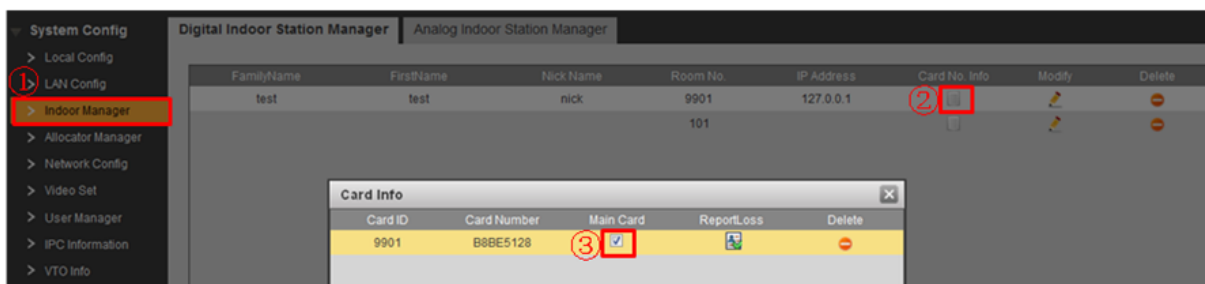

Figure 4-8
- a) Follow the steps in chapter 4.1 to issue card first and then set current card as parent card. See Figure 4-8.